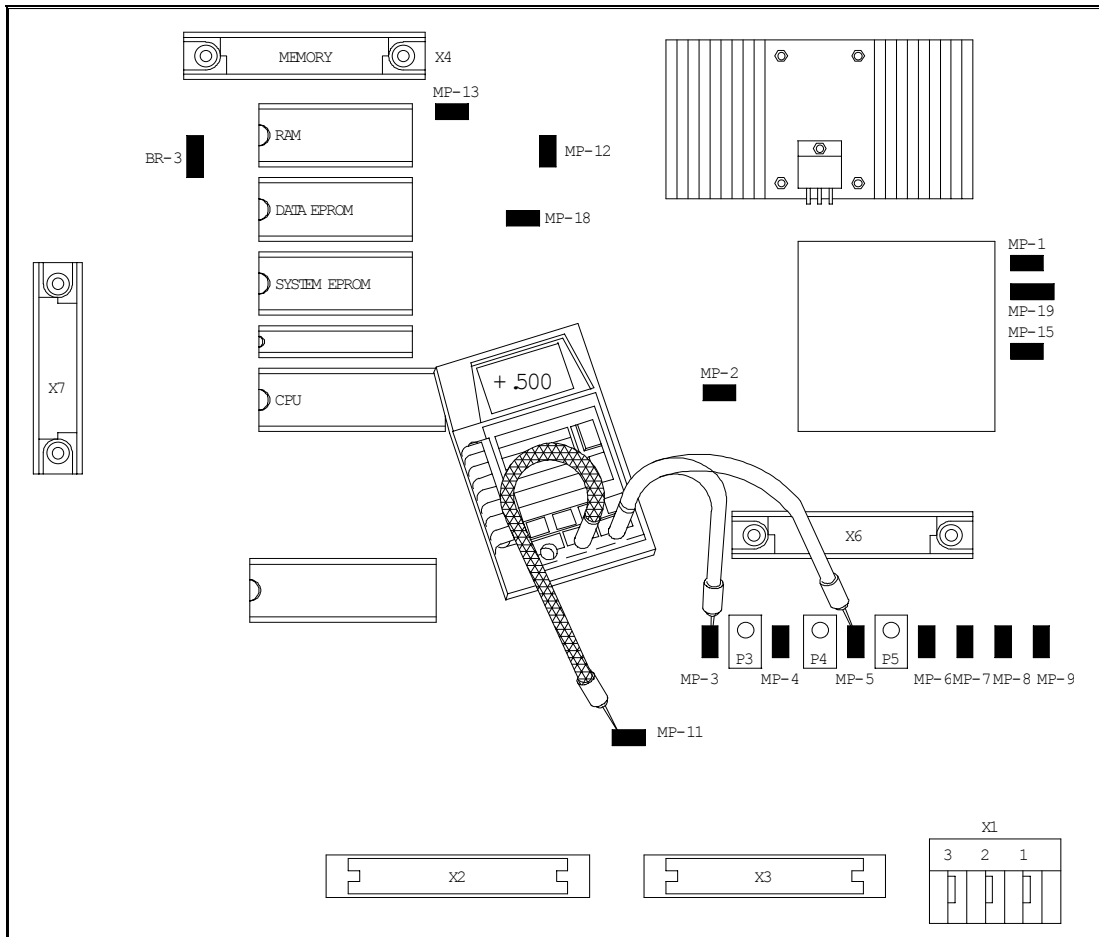

Figure 2. Main Board
- b.) Adjust the linerider voltages on the main board, Refer to Figure 2 below.